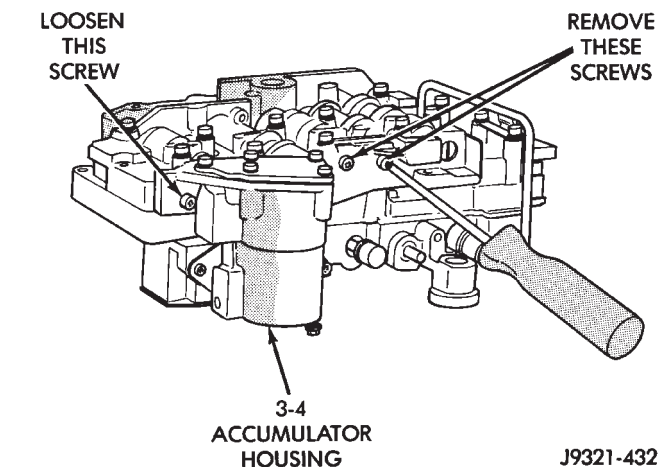

Fig. 79 Accumulator Housing Screw Locations
(20) Loosen left-side 3-4 accumulator housing attaching screw about 2-3 threads. Then remove center and right-side housing attaching screws (Fig. 79).